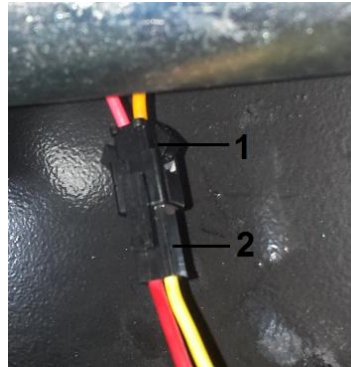

Fig. 2
- Plug the two signal wires (1+2, fig.2) together.